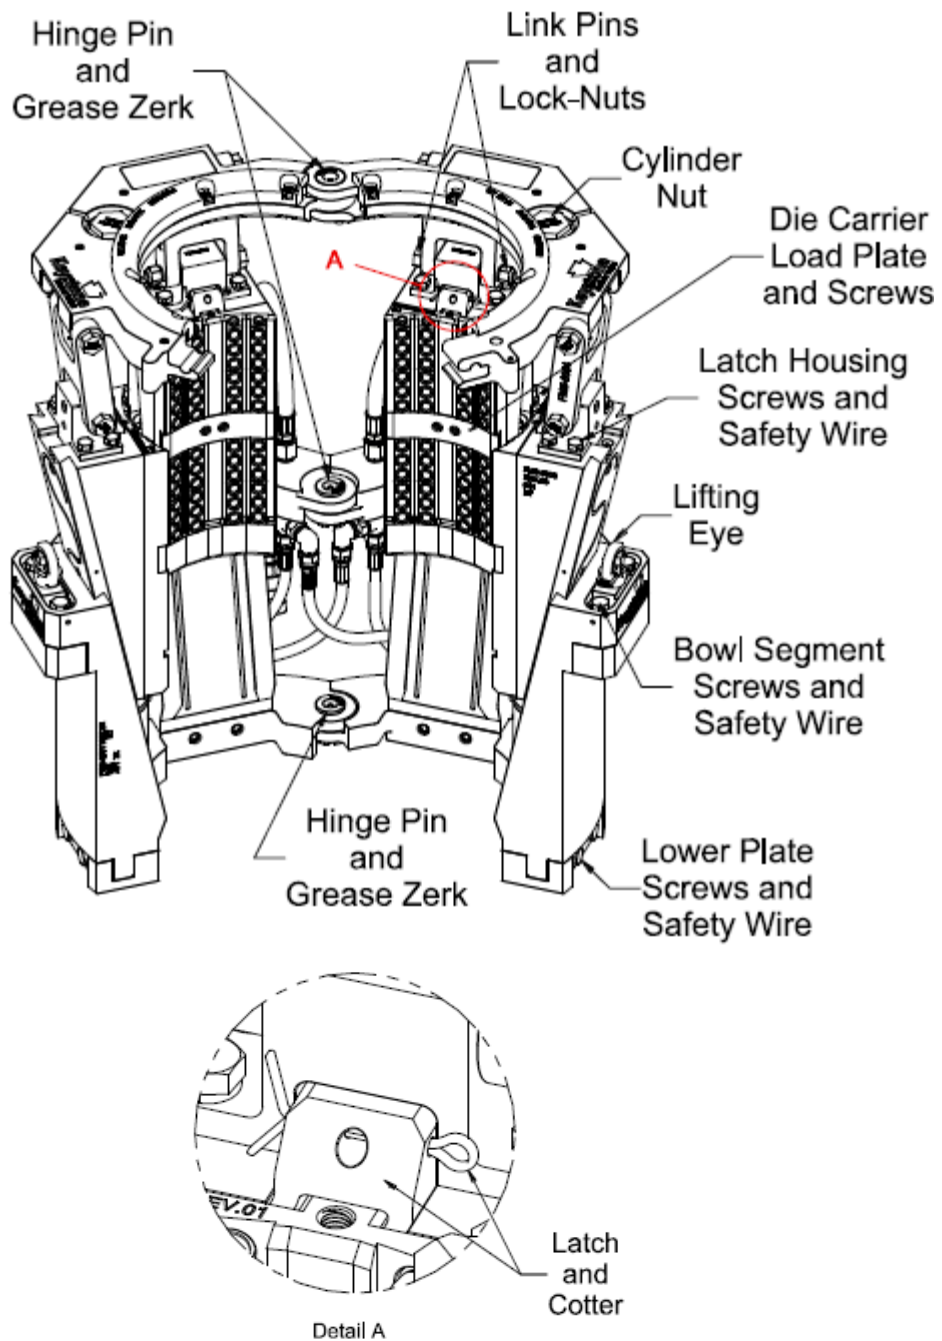

Fig. 33
- Check that the latch has proper spring tension and functions properly without any hesitation or restrictions and verify that the latch is properly securing the (4) insert carriers and (4) cotter pins are installed for secondary retention (see fig. 33 Detail A)